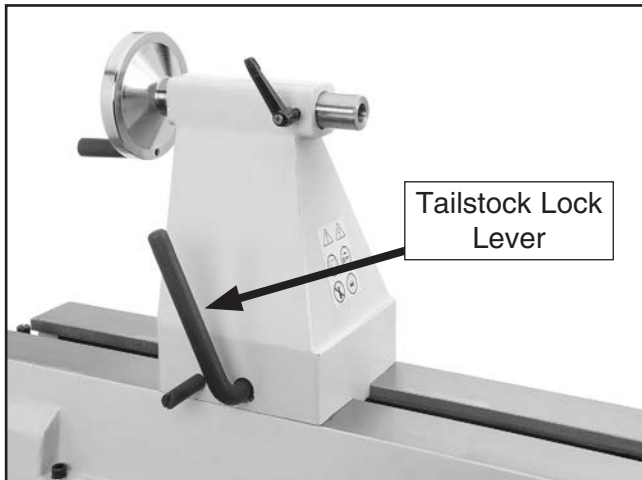

Figure 17. Tailstock lock lever location.
1. Loosen tailstock lock lever and move tailstock to desired position along bed, as shown in **Figure 17**.